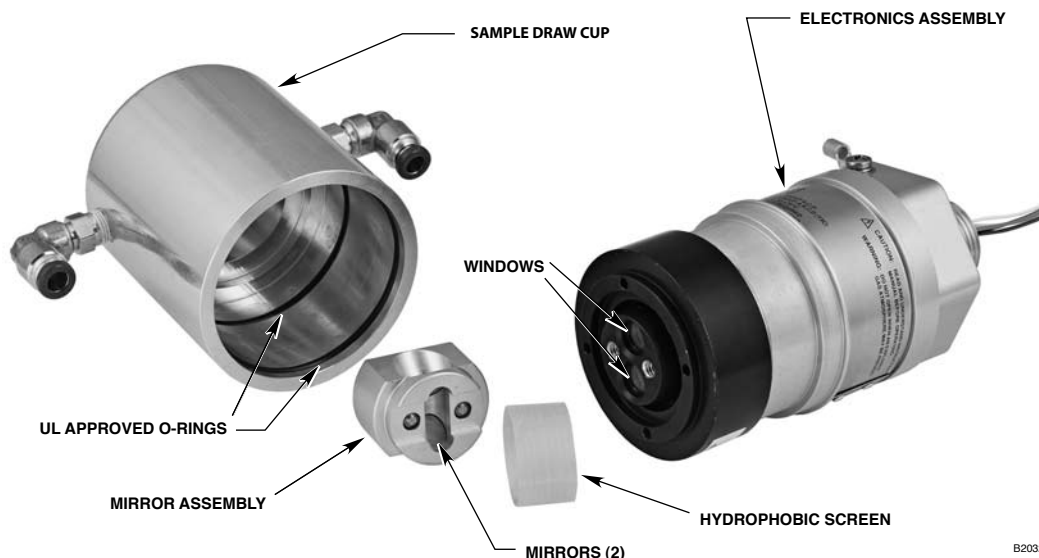

Figure 12—PIRVOL Disassembly for Cleaning
1. Remove the sample draw cup from the front of the PIRVOL. See Figure 12.
3. Loosen the two captive screws on top of the mirror assembly (Figure 12) and remove the mirror assembly and hydrophobic screen from the electronics assembly.